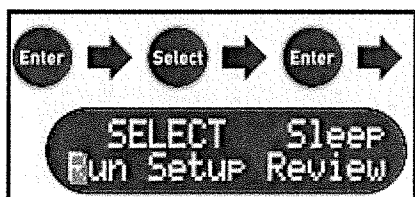

Figure 6: Exiting the sleep mode.
- 3.2.2.2 To wake the pump from sleep mode press the keypad keys in the sequence – **Enter, Select, Enter**. The pump will display the 'SELECT' main menu screen (Figure 6).